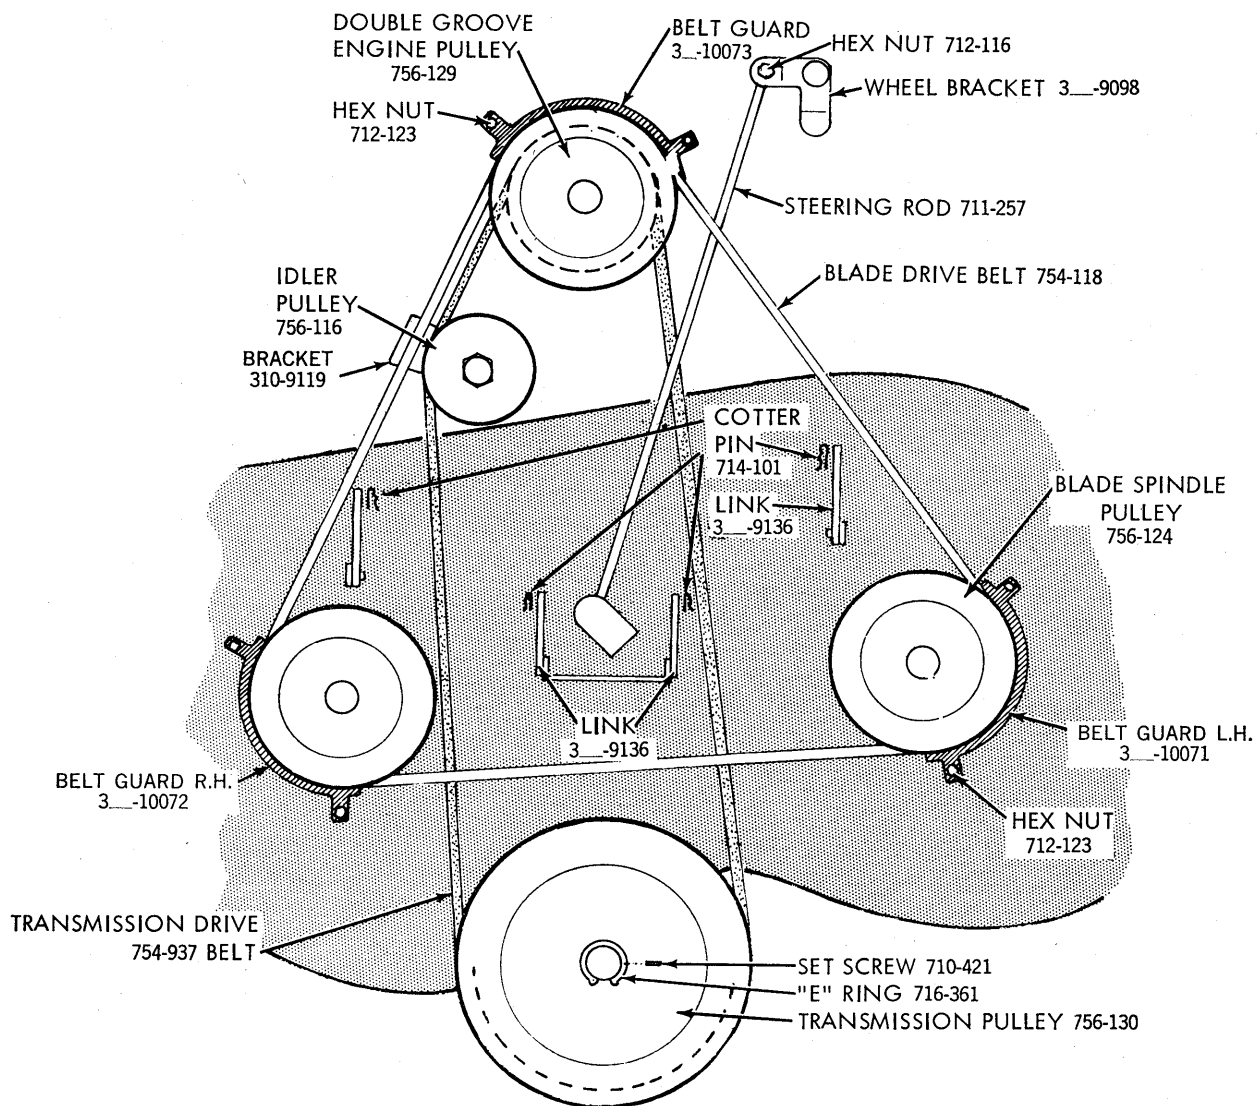

Figure 15. Bottom View of Rider Mower
2. Remove the belt guard on the double groove engine pulley by removing the two hex nuts (see Fig. 15).